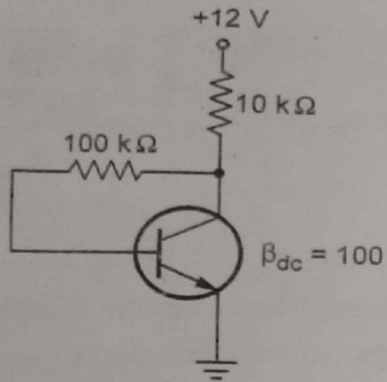

Fig. 1
Q.3 a) Calculate the Q point values (I_C and V_{CE}) for the circuit shown in Fig. 1. (Refer Q.58 of chapter - 2)